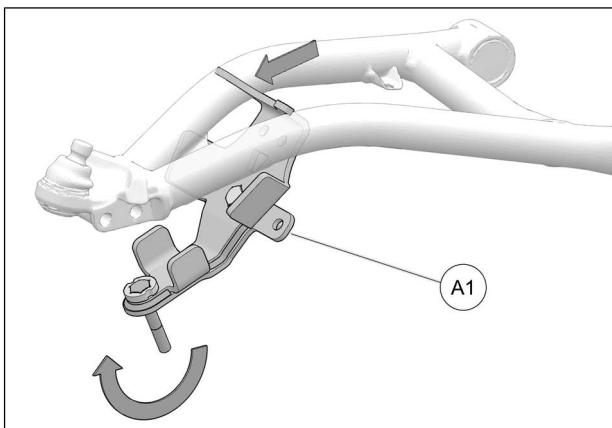

Fig. 16
7. Rotate bracket (**A1**) upward while sliding it forward to move it into position under suspension arm. See Fig. 16